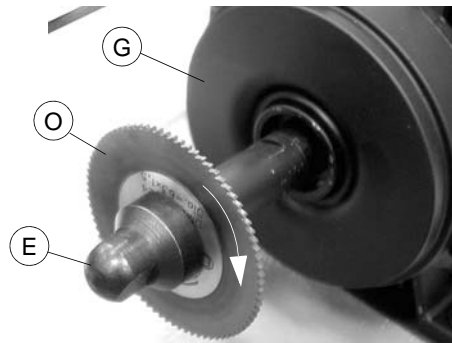

Fig. 18
- 2) place the 13 mm spanner onto the cutter fastening (E) nut.
- 3) loosen the (E) nut by turning it clockwise (fig.18).